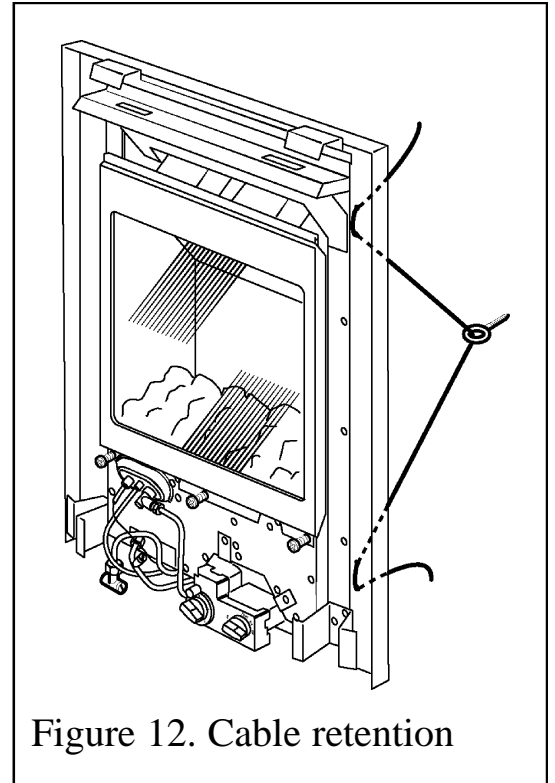

Figure 12. Cable retention
- Thread the two tension cables through the appliance case side holes as shown in figure 12.
- Cable retention: Fit the eyebolts onto the cables. Thread the cables through the appliance case sides as shown in figure 12. Offer the fire complete with flue unit through the wall. Pull the cables taut.